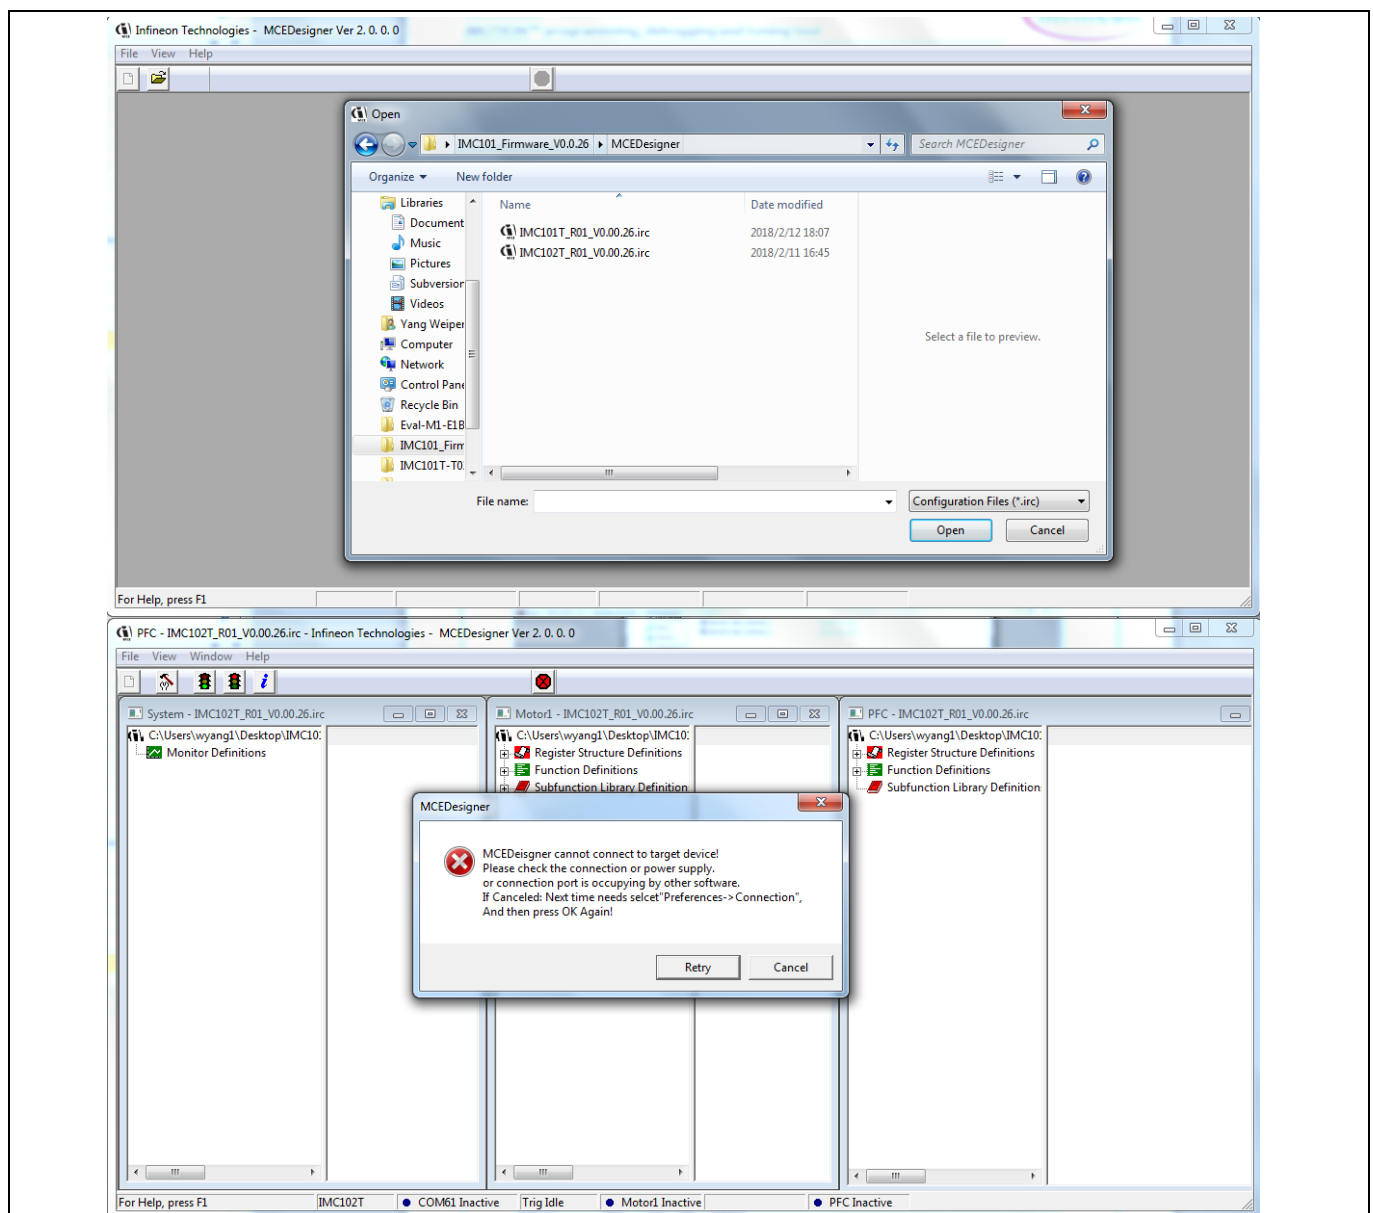

Figure 11 Configuration file selection
2. It is possible that the default COM port does not match with the configured COM port number on the PC, and the message “MCEDesigner cannot connect to target device” will appear (as in Figure 11). In that case, press Cancel, Highlight or click “System – XXX.irc” sub-window and select “Preferences —> Connection”. Then select proper COM port from drop down list and press “OK” button.